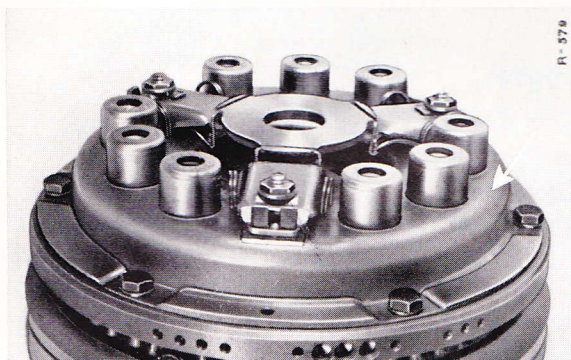

Fig. 25-2/1
2. Unscrew the 6 hexagon screws for fixing the clutch. Unscrew evenly, a few turns at a time at each screw (Fig. 25-2/1). Take off the mechanical clutch and the driven plate.